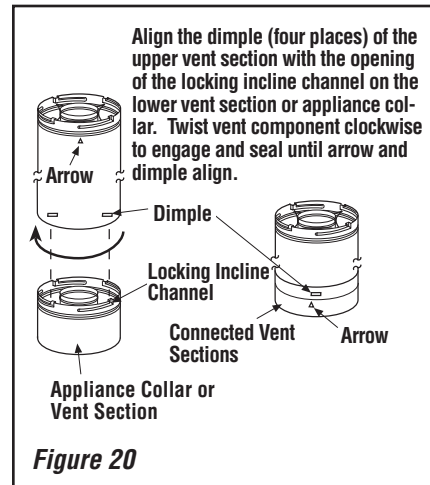

Figure 20
B. Attach vent components to appliance - Secure Vent SV4.5 direct vent system components are unitized concentric pipe components featuring positive twist lock connections (see **Figure 20**). All of the appliances covered in this document are fitted with collars having locking inclined channels. The dimpled end of the vent components fit over the appliance collar to create the positive twist lock connection.
To attach a vent component to the appliance collar, align the dimpled end over the collar, adjusting the radial alignment until the four locking dimples are aligned with the inlet of the four inclined channels on the collar (refer to **Figure 20**). Push the vent component against the collar until it fully engages, then twist the component clockwise, running the dimples down and along the incline channels until they seat at the end of the channels. The unitized design of the **Secure Vent** components will engage and seal both the inner and outer pipe without the need for sealant or screws. If desired a #6 x 1/2" screw may be used at the joint, but it not required as the pipe will securely lock when twisted.
C. Attach vent components to each other - Other vent sections may be added to the previously installed section in accordance with the requirements of the vertical vent Figures and Tables. To add another vent component to a length of vent run, align the dimpled end over the inclined channel end of the previously installed section, adjusting the radial alignment until the four locking dimples are aligned with the inlets of the four incline channels of the previous section. Push the vent component against the previous section until it fully engages, then twist the component clockwise running the dimples down and along the incline channels until they seat at the end of the channels. **This seating position is indicated by the alignment of the arrow and dimple as shown in Figure 20.**
Secure Vent SV4.5 direct vent system components are unitized concentric pipe components featuring positive twist lock connection, (refer to **Figure 20** on **Page 15**). All of the appliances covered in this document are fitted with collars having locking inclined channels. The dimpled end of the vent components fit over the appliance collar to create the positive twist lock connection.
D. Attach vent components to appliance - To attach a vent component to the appliance collar, align the dimpled end over the collar, adjusting the radial alignment until the four locking dimples are aligned with the inlets of the four incline channels on the collar (refer to **Figure 20** on **Page 15**).